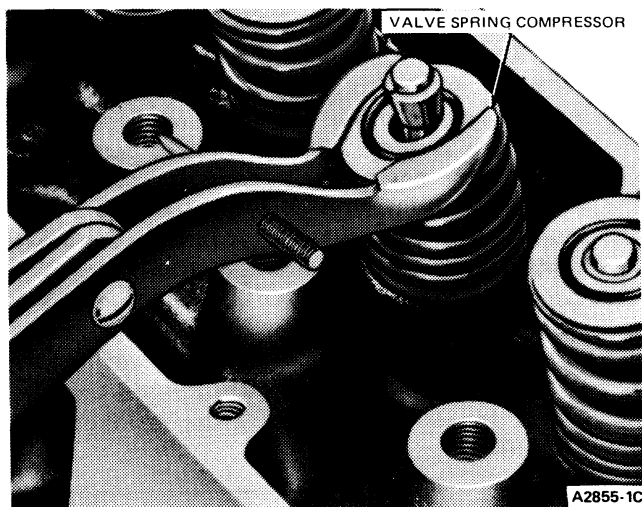

FIG. 49 Compressing Valve Spring On Bench
3. Compress the valve spring (Fig. 49). Remove the spring retainer locks and release the spring.
2. Install the valve spring over the valve, and then install the spring retainer and sleeve. Compress the spring (Fig. 49) and install the retainer locks (Fig. 50).